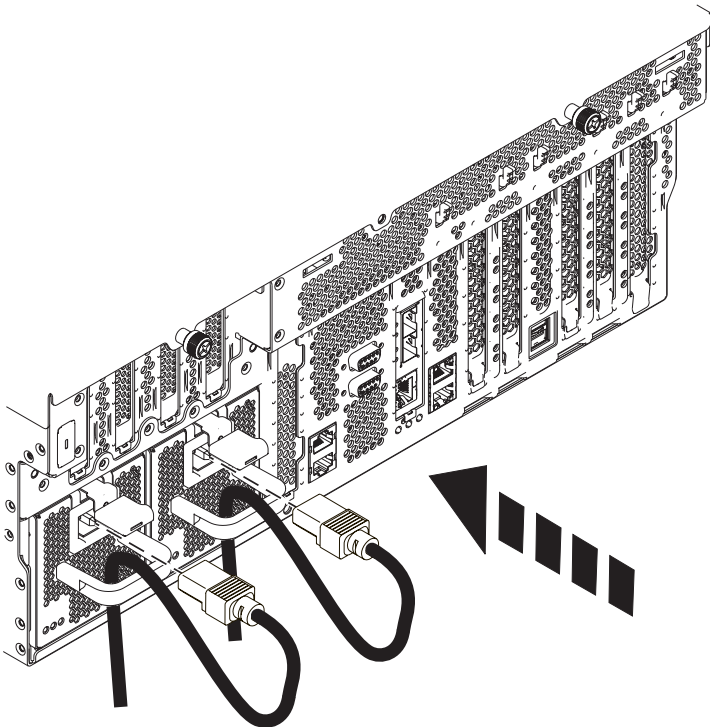

Figure 4. Routing the power cable
6. Route the power cable through the cable management bracket on the back of the power supply, as shown in Figure 4.